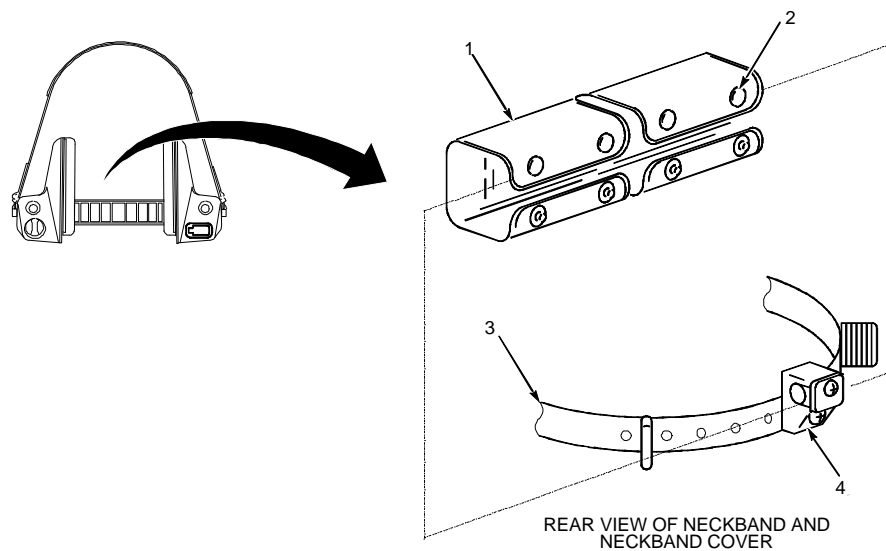

Figure 3-21. Neckband (Spring Assembly) Cover
3.9.3. Neckband (Spring Assembly) Cover Removal and Replacement (Fig. 3-21)